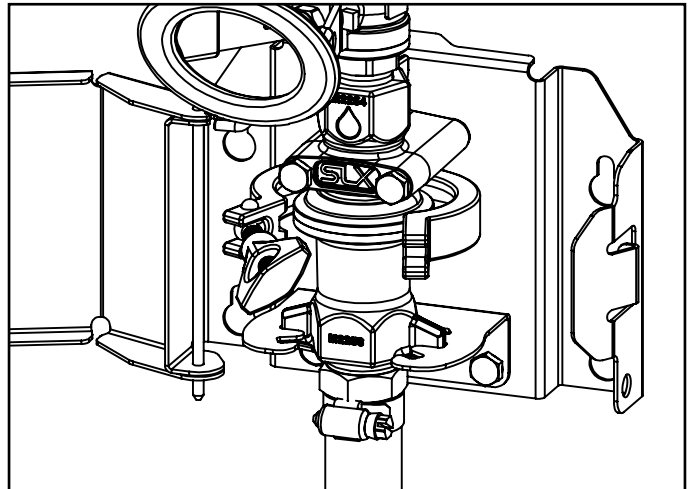

Fig. 7.1: Polypropylene lower support bracket
- **For Polypropylene Models:** Twist the lower sanitizer body and align the winglets to release it from the support bracket. [Fig 7.1]